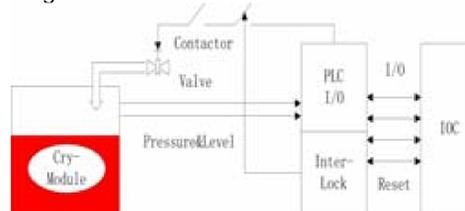

Fig3 Design of Control Function of Superconducting Devices
- Design of Control Function (See Fig3)